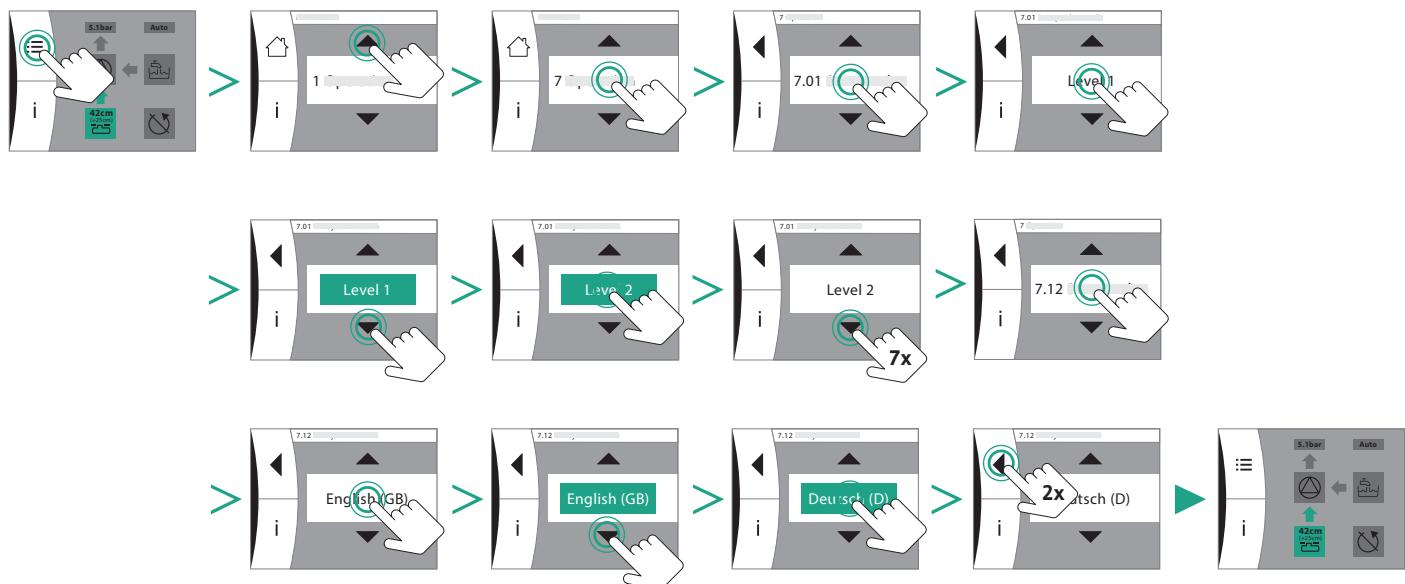

Fig. 24: Setting the language
7. Select the preferred menu language (Fig. 24).